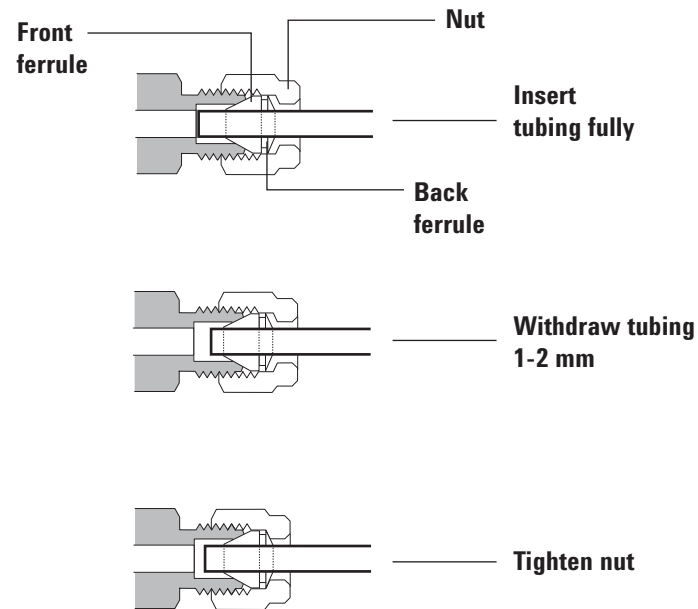

Figure 16 Insert the tubing
- 3 Push the tube fully into the fitting, then withdraw it approximately 1 to 2 mm (see Figure 16).